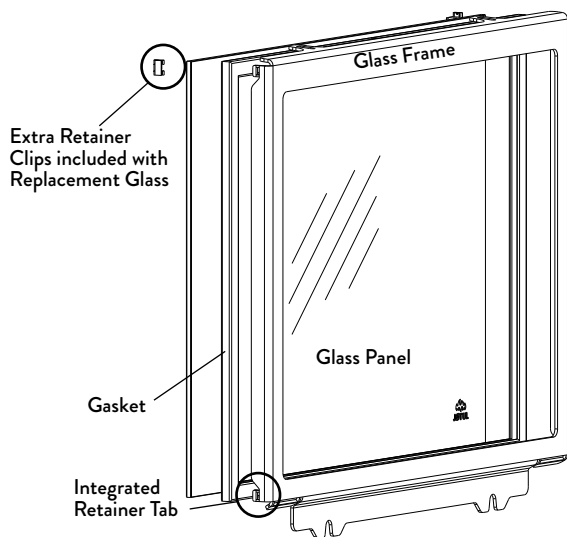

Figure 15.1.
4. The glass panel is held in place by four tabs at the frame corners. Use a screwdriver or small pliers to pry these up just enough to release the glass panel. See fig. 15.1, page 34.